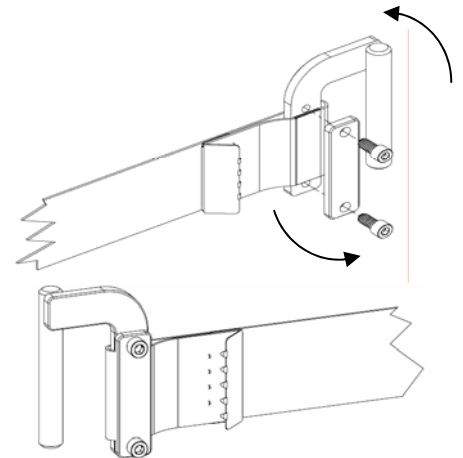

Figure 3. Remove strap handle, rotate it 180° and re-attach.
2. Remove the ST5011 Strap Handle, rotate it 180° and re-attach (See Figure 3.)